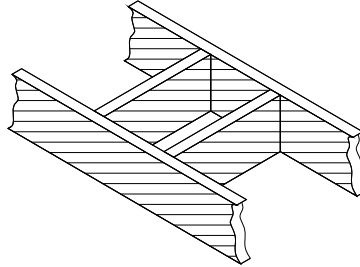

Figure 22
1. Cut and frame the holes in the ceiling, floor and roof where the chimney will pass (see figure 22). Use a plumb bob to line up the center of the holes. Make sure that the size of the floor and ceiling holes are in accordance with the chimney manufacturer's instructions.